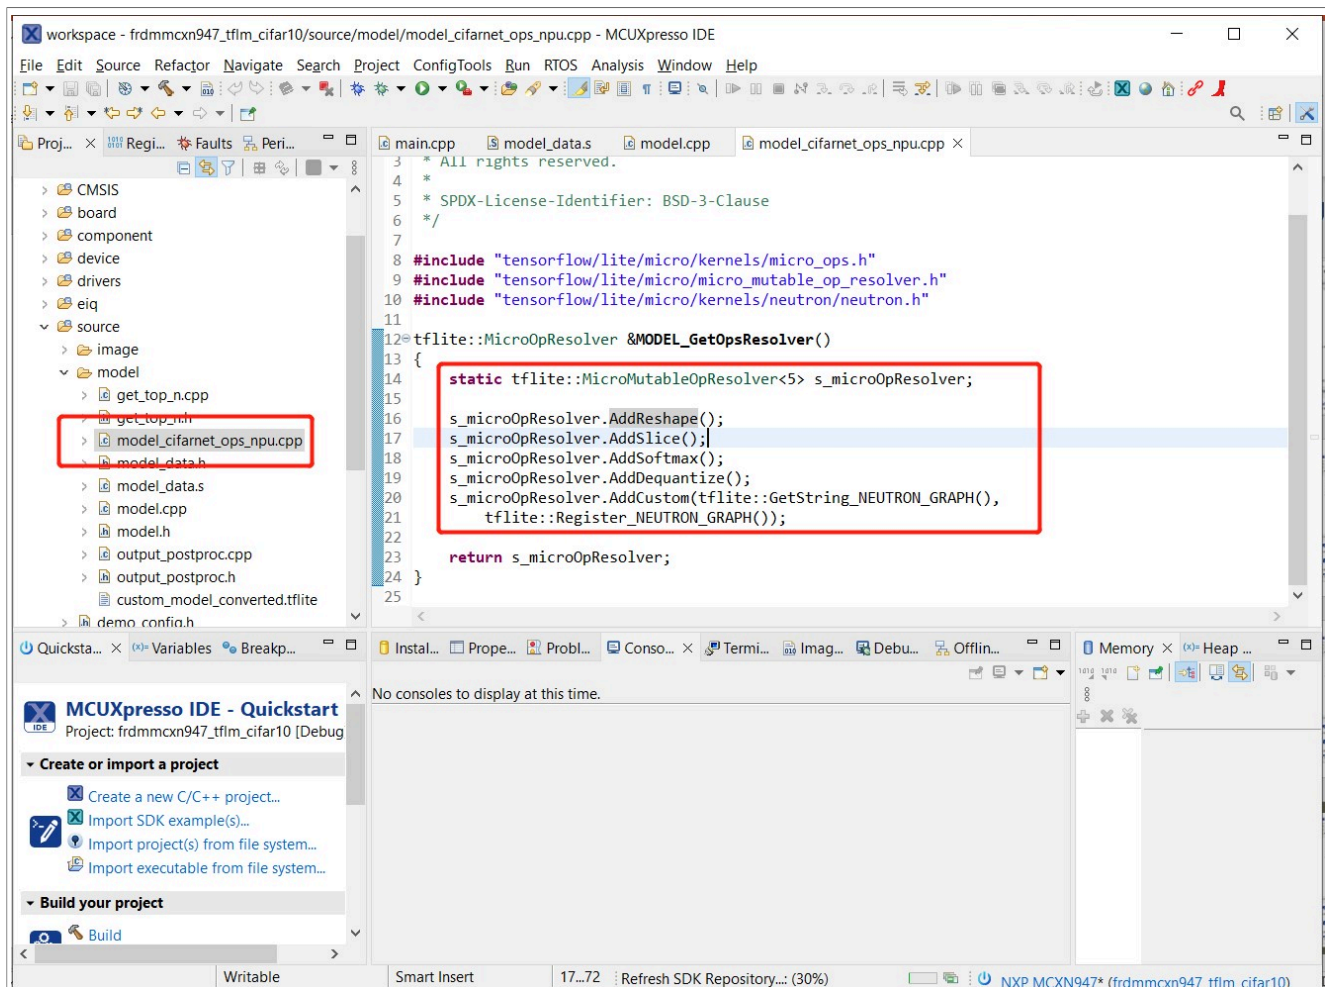

Figure 19. Modifying model_cifarnet_ops_npu.cpp
4. Modify `model_cifarnet_ops_npu.cpp`, and make sure all the operators used by the custom model are added in `s_microOpResolver` as shown in Figure 19.